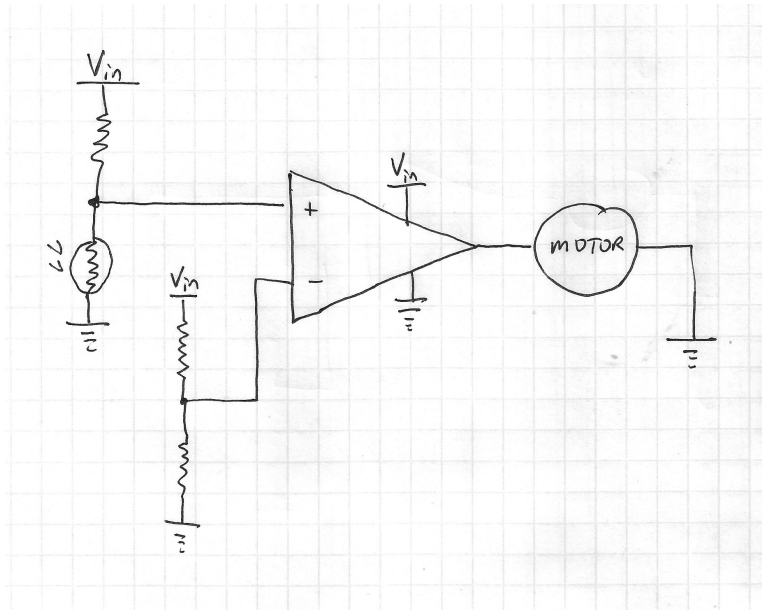

Figure 3: Comparator circuit to power a motor. The resistor sizes are somewhat arbitrary, but you can consider them the same as in the previous exercise.
9. Consider what would happen if you removed the LED and its resistor and connected the output of the comparator to a motor, as shown in Figure 3. Will the motor spin when the photoresistor is in the light or dark? How could you reverse the behavior?
5. Describe the behavior of the motor in light and dark for the configuration in Figure 3.